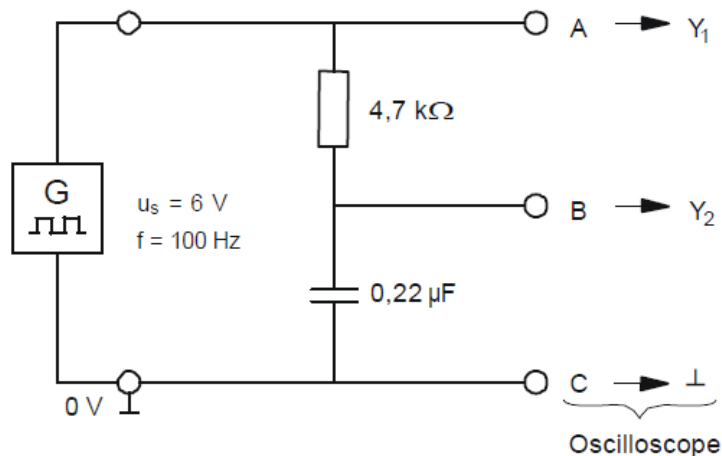

Figure 6
- 1) Connect the circuit shown in Figure 6 and connect the generator with a positive square wave voltage.